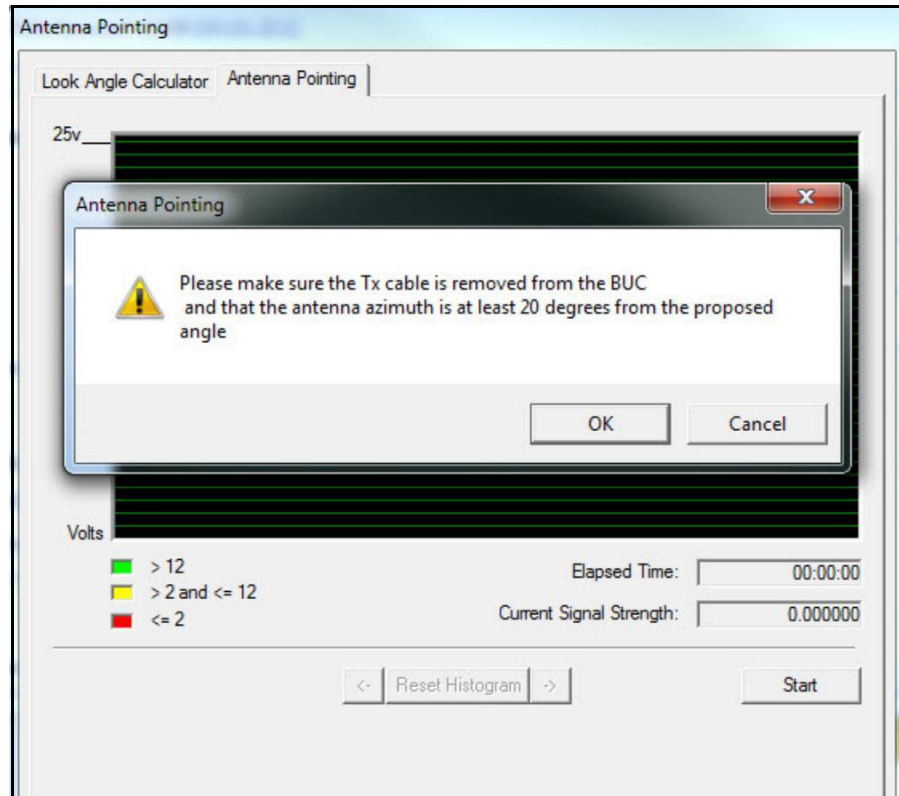

Figure 22. Starting Antenna Pointing
2. In the **iSite Tree View**, right-click the **Remote** and select **Align Antenna→Antenna Pointing**. Alternately, click the  icon in the tool bar. The **Antenna Pointing** dialog box appears. See Figure 22.